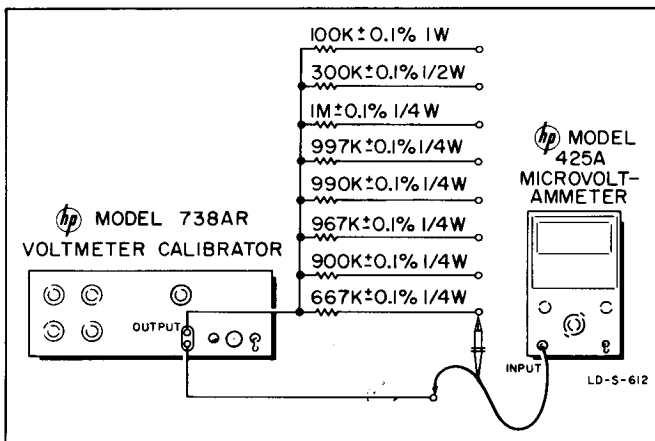

Figure 5-10. Ammeter Calibration Test Setup
- b. Set Model 425A to the voltmeter calibrator using the series resistors as shown in figure 5-10.